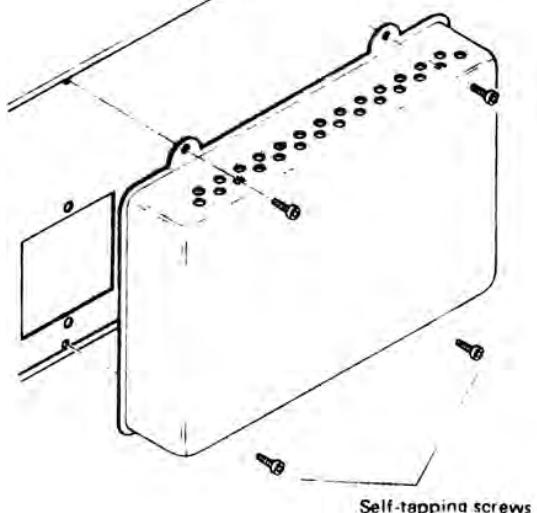

Figure 3
- (3) Mount the Memory Unit with the supplied self-tapping screws (4 pcs), as shown in Fig. 3, being sure that no wire from inside the unit is protruding.